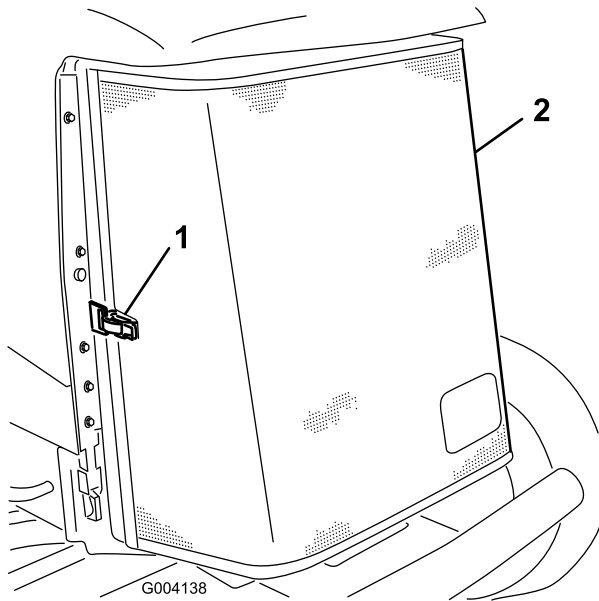

Figure 52
3. Unlatch the clamp and pivot open the rear screen (Figure 52).